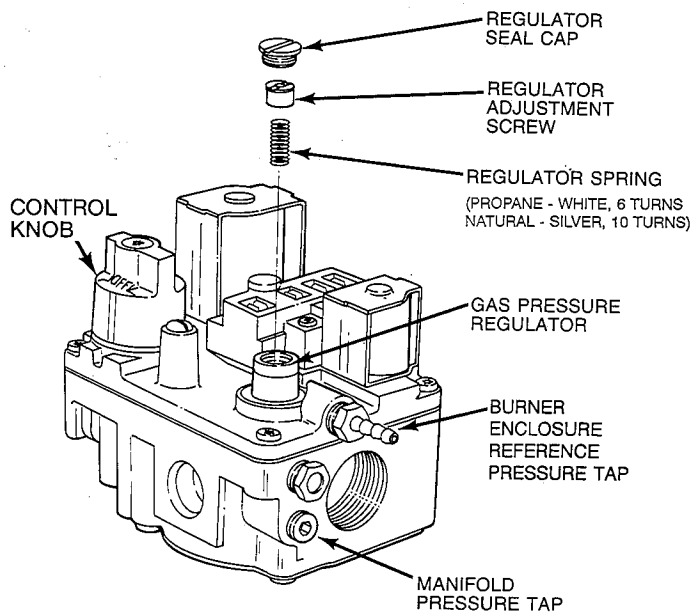

Fig. 6—White-Rodgers 36E Gas Valve A90224
1. Remove regulator seal cap. (See Fig. 6.)